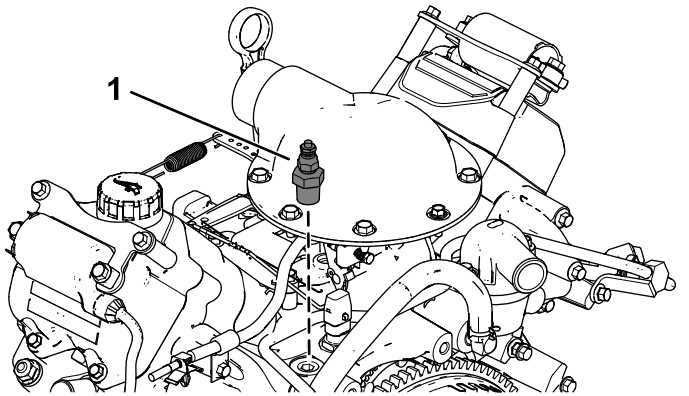

Figure 7
1. Remove the temperature switch from the thermostat housing (Figure 7).